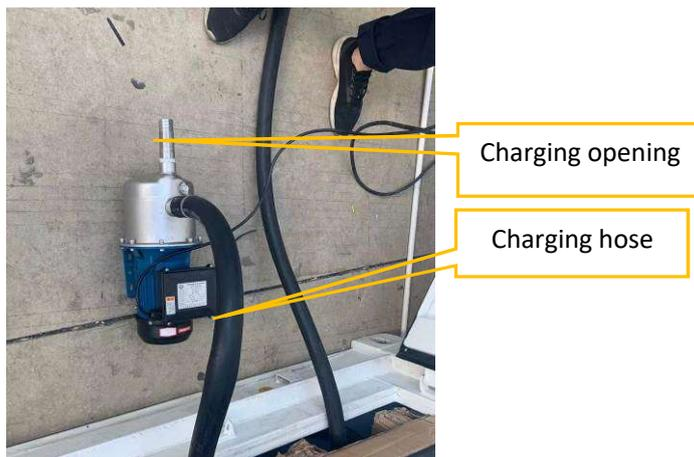

Figure 5-3-4 Pump station - charging hose
- 1) A self-priming pump must be installed outside the container, The self-priming pump needs to inject liquid into the pump head for the first time. Find the port for coolant charge outside the container (at the side door of the container), plug in the hose, and clean it. External coolant is added into the suction port of the self-priming pump. (see Figure 5-3-4)